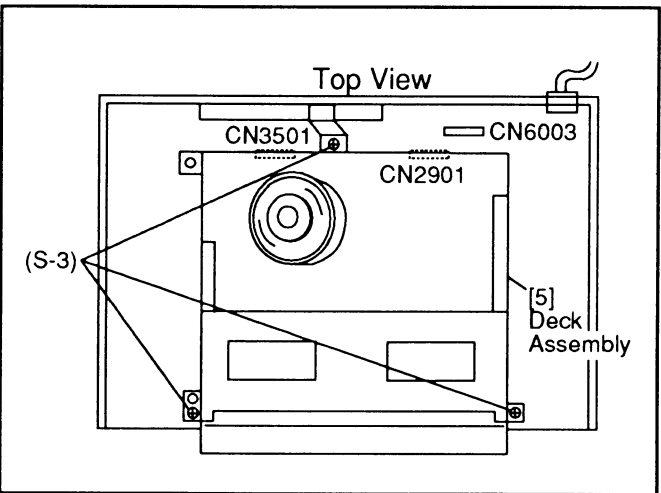

Fig. 6
- 4. Remove 3 Screws (S-3). Then slowly lift the Deck Assembly up. Lifting this Deck Assembly will disconnect 2 Connectors (CN2901, CN3501, CN6003) at the rear side. (Fig. 6)